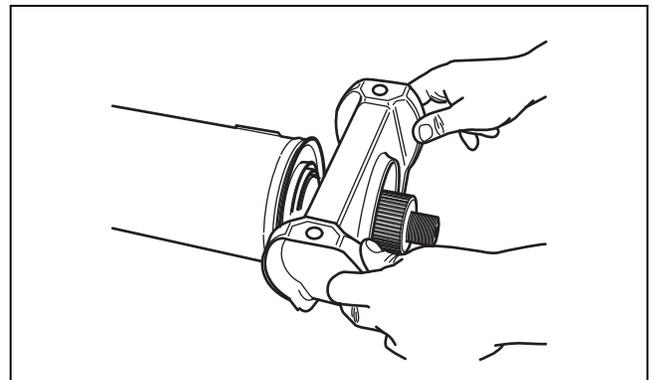

Figure 9.17
2. Carefully align the new center bearing assembly with the machined surface of the coupling shaft. Use your hands to push the center bearing onto the coupling shaft. Figure 9.17.